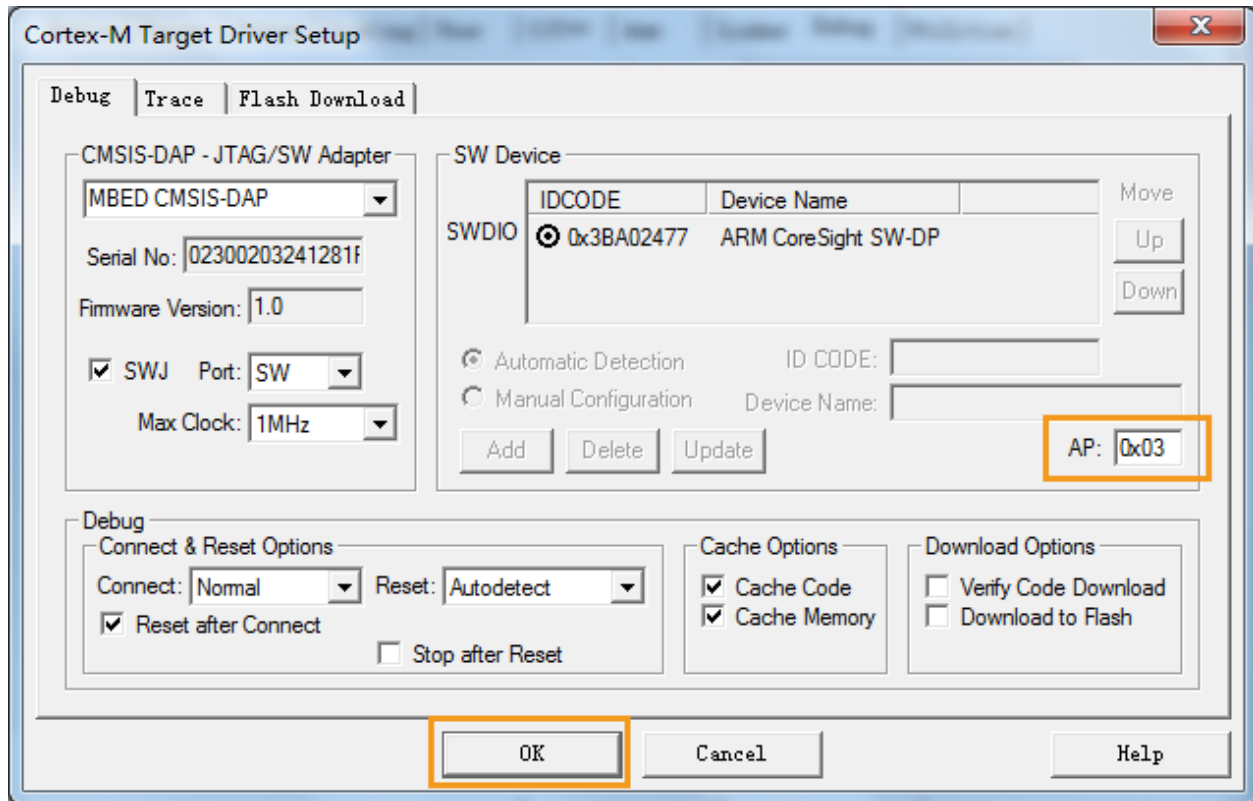

Figure 52. Setup the parameters for downloading the project on LinkIt 2523 HDK
- 8) If downloading on LinkIt 2523 HDK, switch to **Debug**, and set **AP** as **0x03** then click **OK** (see Figure 52). Skip this step, if downloading on the LinkIt 7687 HDK.